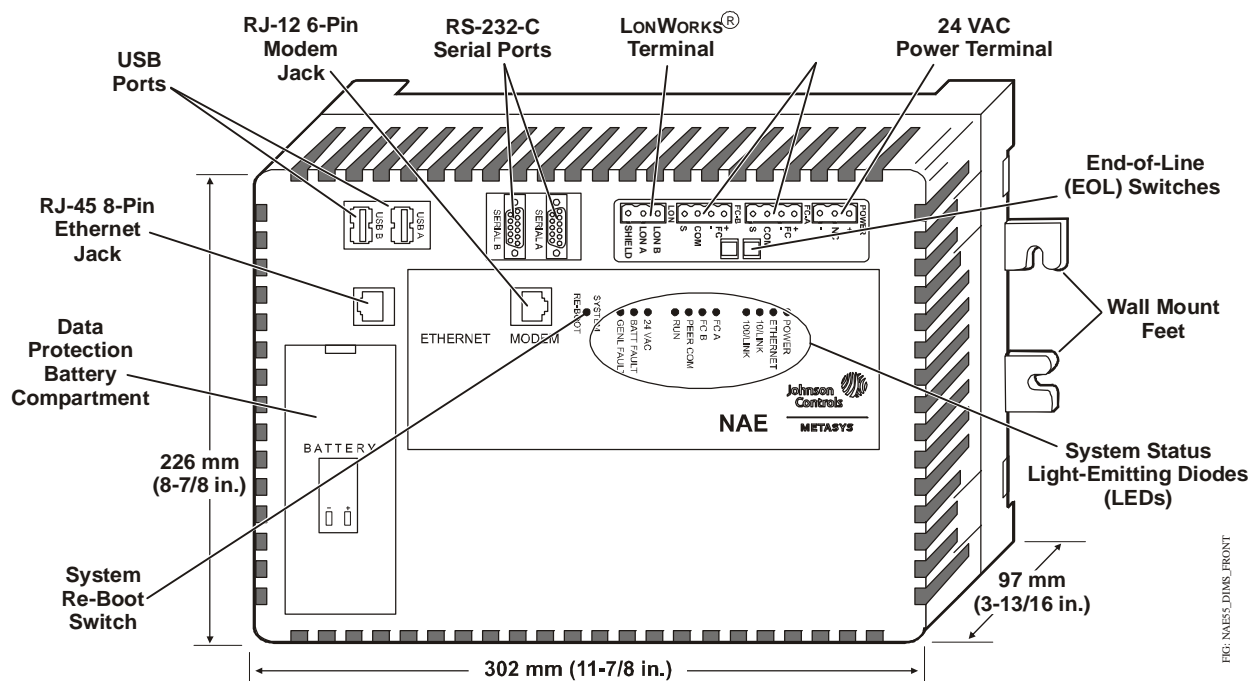

Figure 1: NAE55 Showing Dimensions (mm/in.), Physical Features, and Mounting Orientation
The Network Automation Engine (NAE) and Network Integration Engine (NIE) are Web-enabled, Ethernet-based, supervisory devices that monitor and control networks of field-level building automation devices; Heating, Ventilating, and Air Conditioning (HVAC) equipment; and lighting. Figure 1 shows a typical NAE55 model.
See Figure 1 for the location of the power supply terminal, network communication terminals, Ethernet jack, and modem jack.
The RS-232-C serial ports on the NAE55 are for direct connection using a standard 9-pin female to 9-pin female Data Terminal Equipment (DTE) to DTE null modem cable. The NAE55 serial ports **do not** support external modems. The RS-232-C serial ports are labeled **SERIAL A** and **SERIAL B** (Figure 1).
1. Connect the Ethernet cable to the RJ-45, 8-pin Ethernet port shown in Figure 1.